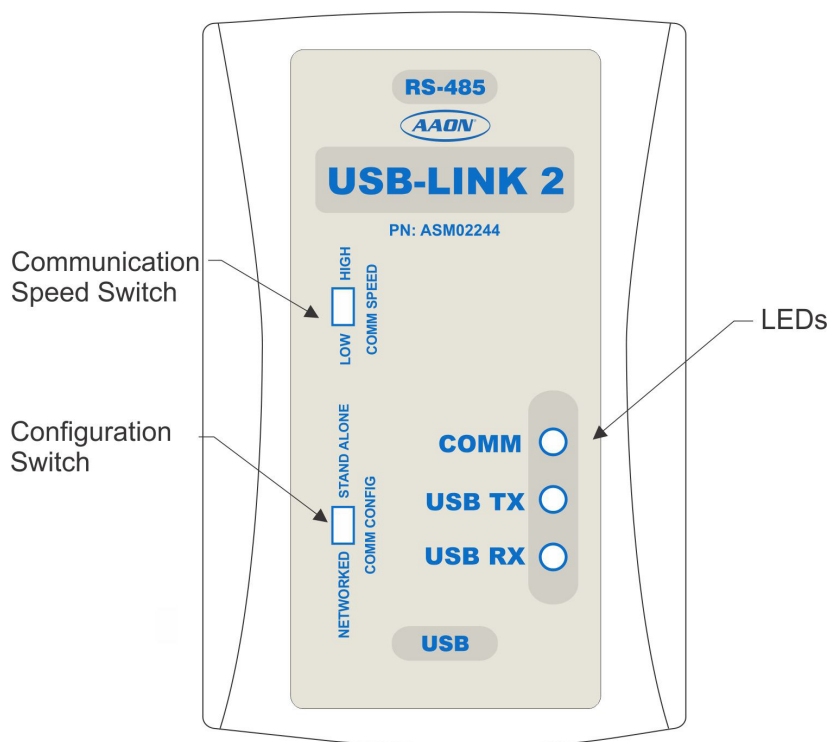

Figure 3: USB-Link 2 Configuration Switch, Communication Speed Switch, and LEDs
- Step 1:** Set your USB-Link 2's configuration switch to Stand Alone or Network (**Figure 3, page 10**).
- Step 2:** Set your USB-Link 2's communication speed switch to Low Speed or High Speed (**Figure 3, page 10**).
9. In the Network Configuration selection box, select the mode for the USB-Link 2 you are using. If using stand alone mode, select USB Link Stand Alone. If using network mode, select USB Link Network. The position of the slide switch on the USB-Link 2 must also be set to the mode you are using (See Figure 3, page 10 for help in setting this switch).
The configuration switch for stand alone or network mode is found to the left of the LEDs. See **Figure 3** above. To set the configuration switch, insert a pen tip to move the switch up or down.
The communication speed switch for low or high speed is found to the left of the LEDs. See **Figure 3** above. To set the communication speed switch, insert a pen tip to move the switch up or down.